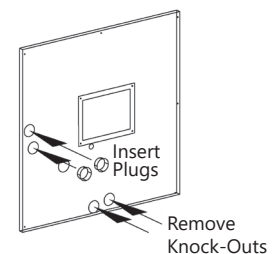

Fig. 10
- 7) Remove round knock-outs on the door to fit drain lines. Plug previously used drain holes with provided plugs. (Fig. 10)